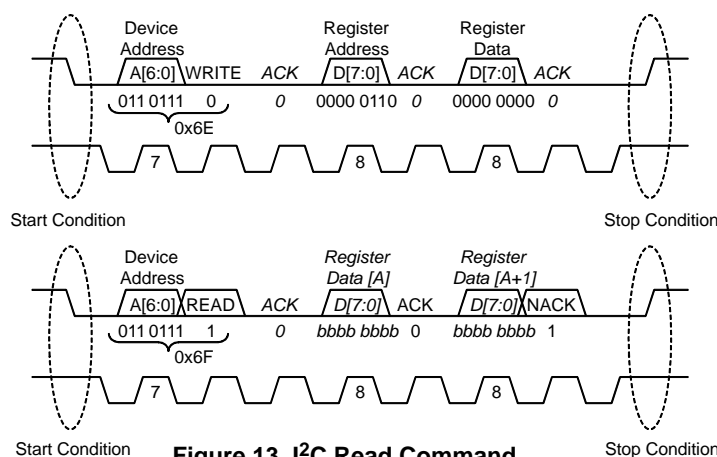

Figure 13. I²C Read Command
Figure 13 shows an I²C read command sent by the master to the slave device. Read transactions begin in much the same manner as the write transactions in that the slave address must be sent with a write(0) command bit.